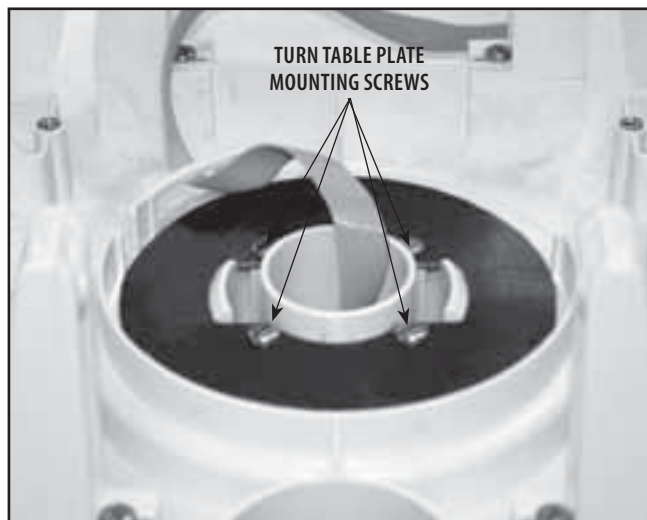

FIGURE 6.16
4. Using the Flat Blade Screwdriver, remove the four Turn Table Plate Retaining Screws. See Figure 6.16.